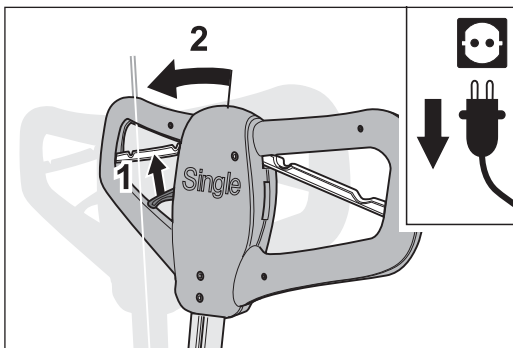

Fig. 31 Pull the adjusting lever to release the lock and push the guide tube up until it reaches the mechanical stop.
- 2 Pull the adjusting lever on the handle towards you to release the lock of the guide tube, and push the guide tube into and past the vertical position until it reaches the mechanical stop (Fig. 31).**